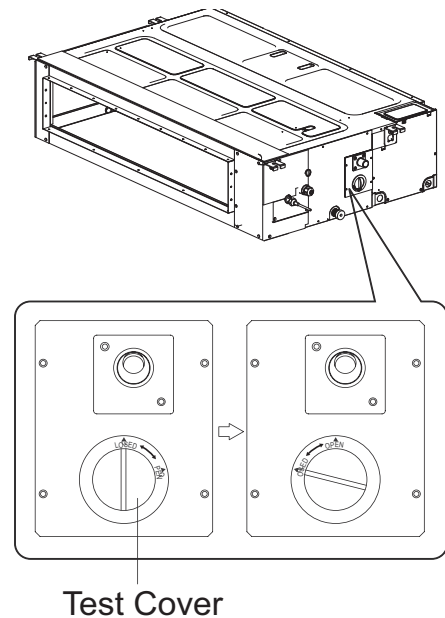

Fig. 33 —Test Cover
1. Remove the test cover by rotating it counter-clockwise as shown in Fig. 33.